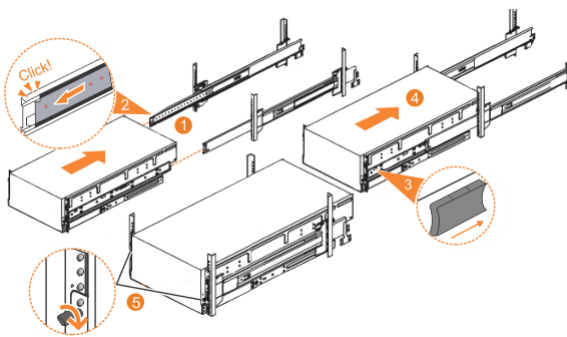

Figure 43. Replacing the 5U enclosure in the rack
1. Fully extend the left and right drawer sections from the rack to lock the rails in the extended position (1 in Figure 43 on page 50).
2. Ensure that the ball bearing retainer clicks into place inside the front of the left and right drawer sections (2 in Figure 43 on page 50).
4. Locate the left and right blue release tabs near the front of the enclosure. Press both release tabs forward to unlock the drawer mechanism (3 in Figure 43 on page 50).
5. Push the enclosure firmly into the rack (4 in Figure 43 on page 50).
6. Tighten the locking thumb screws (5 in Figure 43 on page 50) to secure the enclosure in the rack.